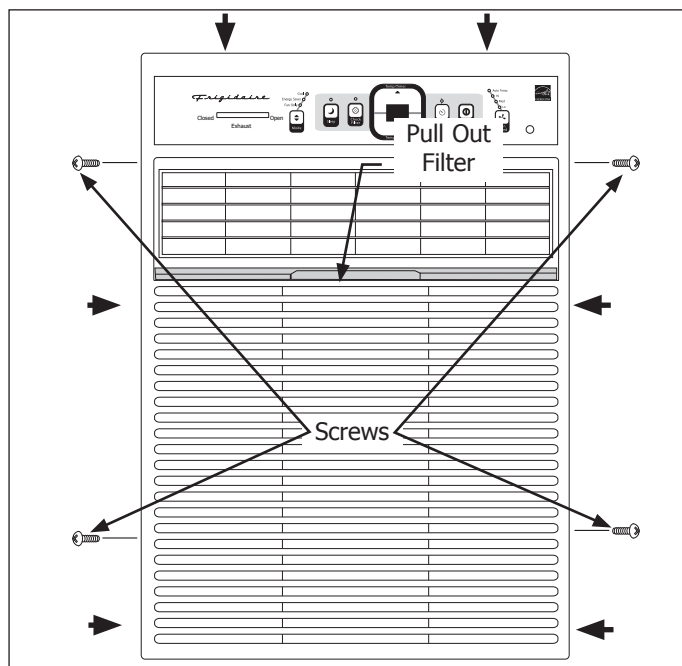

Figure 4-73.
3. Extract the four screws securing the front panel to the cabinet wrapper/sleeve. (See Figure 4-73)
4. Using a putty knife, carefully pry out the side and top retaining clips from the slots cut in the cabinet wrapper. (See Figure 4-73, Arrows show tab locations)